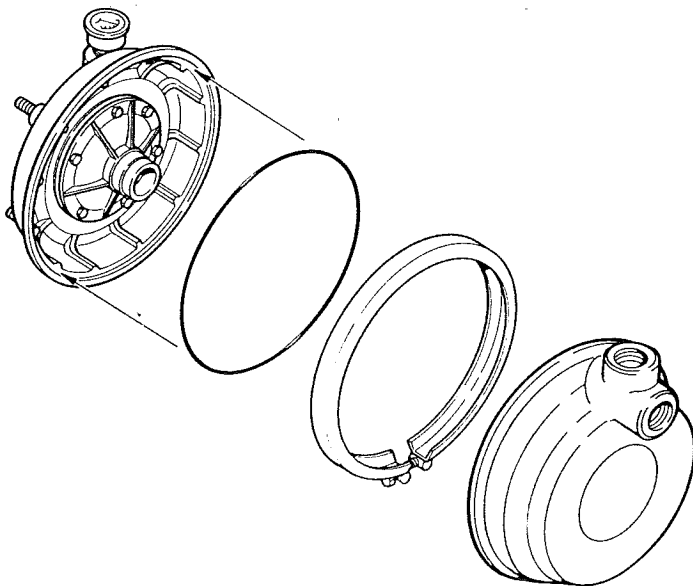

Figure 28—Assemble Pump
2. Put O-ring in groove on face of flange; put pump halves together (see Figure 28).